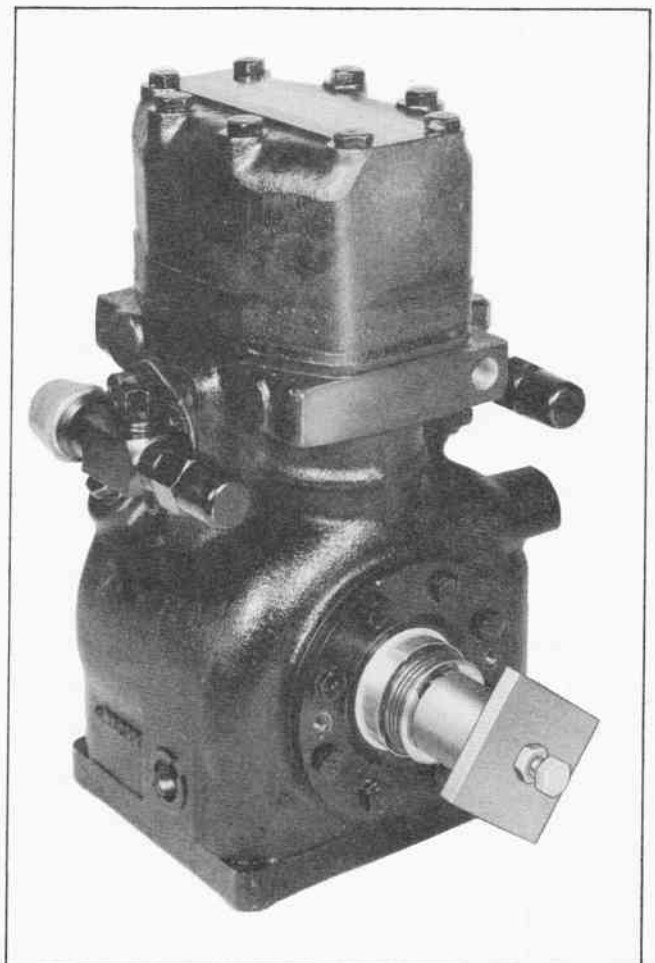

Fig. 9 Installation of Seal Seat
13. As shown in Figure 9, complete the installation of the seal seat and snap ring by placing the 1" I.D. spacer into position and installing the 2" x 2" x 1/4" back plate and the 5/16" x 1-1/4" N.F. hexhead bolt and nut. Holding the head of the hexhead bolt, tighten the nut so that the back plate and spacer forces the snap ring into the snap ring groove on the compressor shaft.